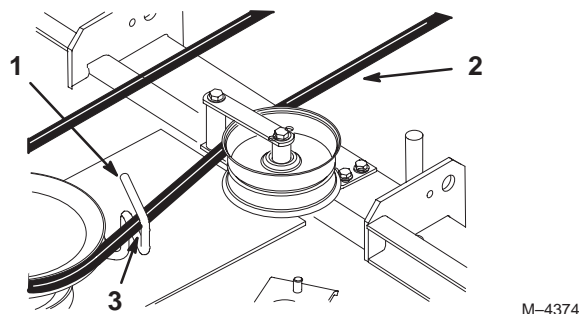

Figure 70
11. Rotate the belt guide, on rear of the mower, so it is 1/8–1/4 inch (3–7 mm) away from the vertical side of the PTO belt (Fig. 70).